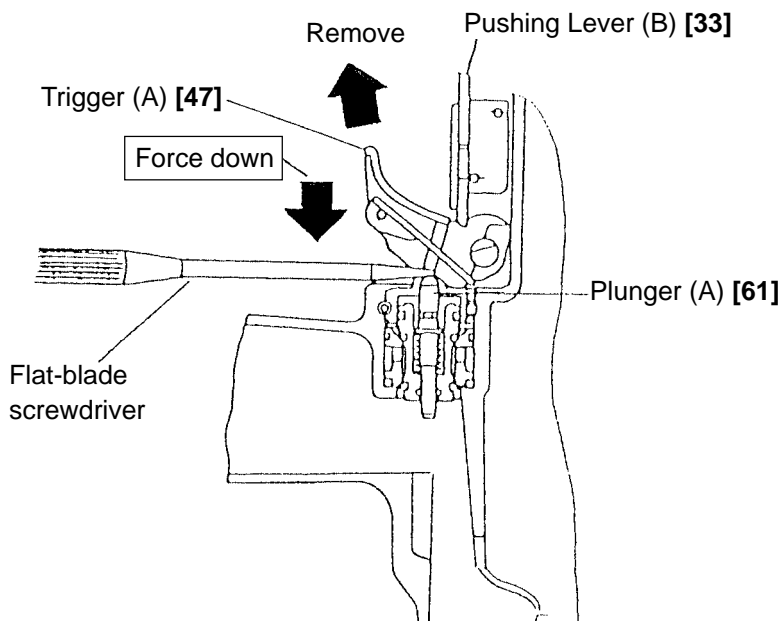

Fig. 15
Thoroughly apply grease to the O-Ring (I.D. 1.8) [62] of Plunger (A) [61], the O-Rings (S-4) [56], (I.D. 8.8) [58] and (I.D. 11) [59] of Valve Piston (B) [57], and the shaft of Plunger (A) [61] shown in Fig. 15.
- As shown in Fig. 15, install Valve Bushing (A) [63] so that the roll pin groove in Valve Bushing (A) [63] will be aligned with the roll pin hole in the Body [22]. First, insert the roll pin puller (3 mm dia.) into the roll pin hole. Then, upon confirming that the puller passes through the hole, drive in the Roll Pin D3 x 22 [46].